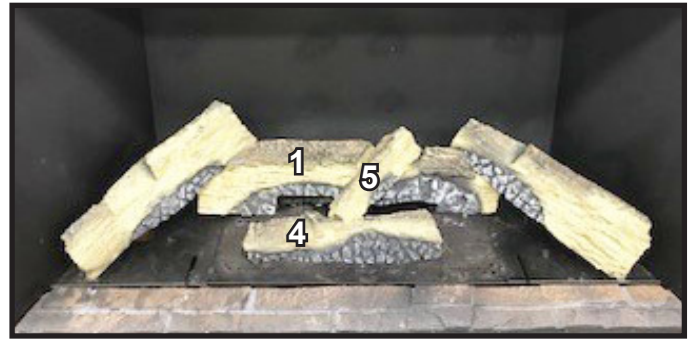

Figure 7. Log #5 Installed
**LOG #5:** Place the small end of Log #5 in the flat notch of Log #4 and the big end in the flat spot of Log #1. See Figure 7.